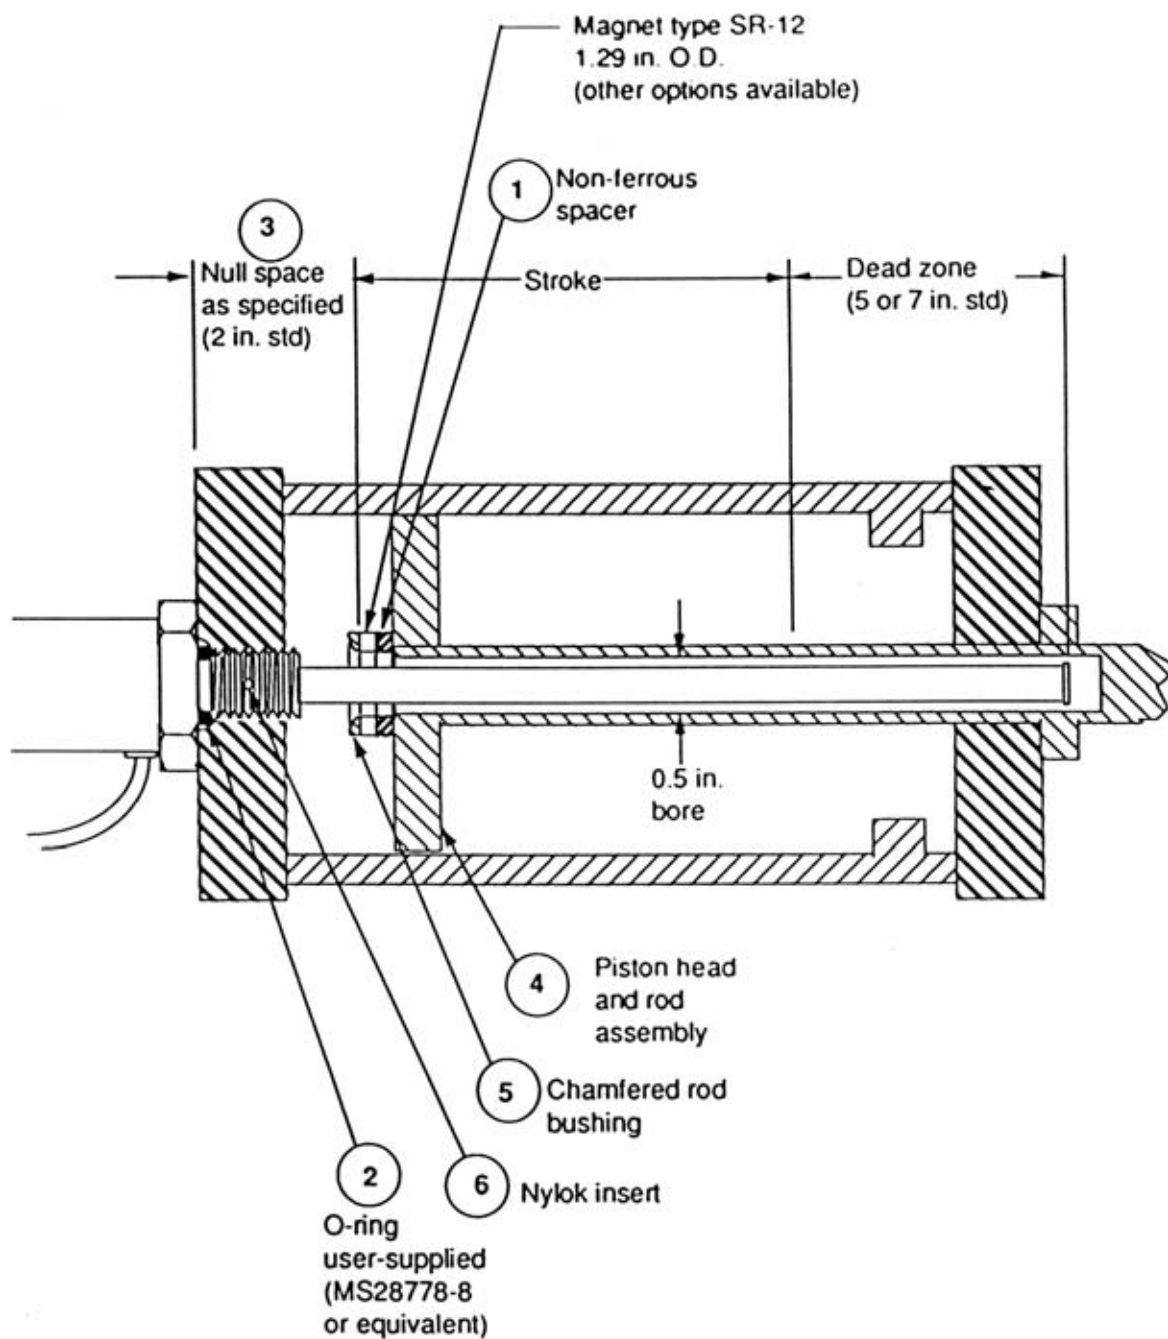

Figure 3-9. Typical Cylinder Installation
The rigid transducer installation procedure can be used as a guide for cylinder installations. Figure 3-9 shows a typical cylinder installation. Review the following before attempting this type of installation.
- The piston head [4] shown in Figure 3-9 is typical. For some installations, depending on the clearances, it may be desired to countersink the magnet.